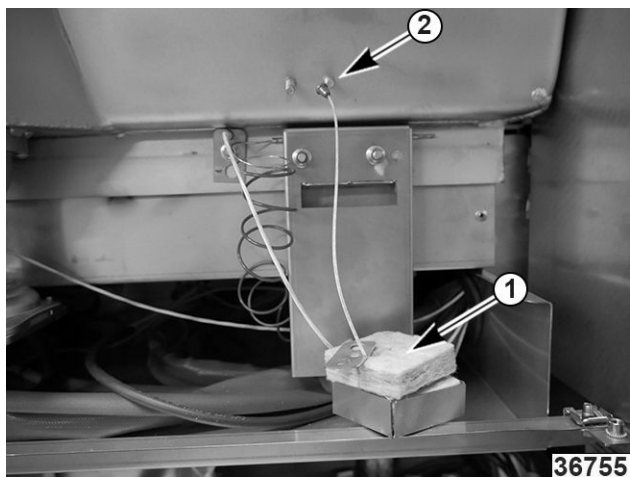

Fig. 65
5. Remove well probe insulation (1, Fig. 65).
6. Remove probe from mounting (2, Fig. 65).